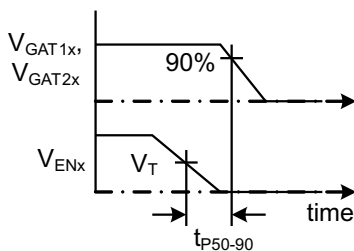

Figure 2. t_{P50-90} Definition
(4) See Figure 2 for timing definition.
(5) These parameters are provided for reference only, and do not constitute part of TI's published device specifications for purposes of TI's product warranty.